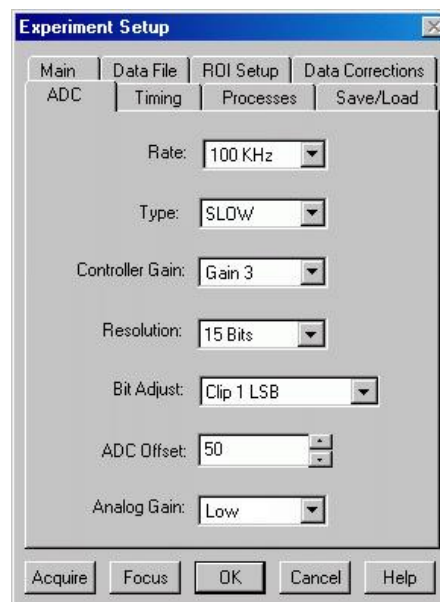

Figure 44. Generic ADC tab page
5. On the **ADC** tab page (Figure 44), set the parameters as they apply to your particular system.